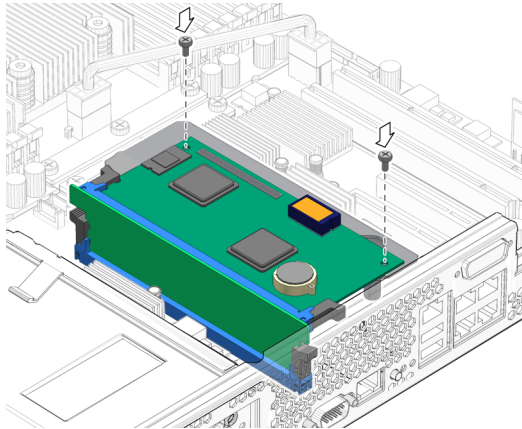

FIGURE 4-21 Securing the System Controller Assembly
- 4. Install the two screws to secure the system controller assembly to the system controller board bracket (FIGURE 4-21).**